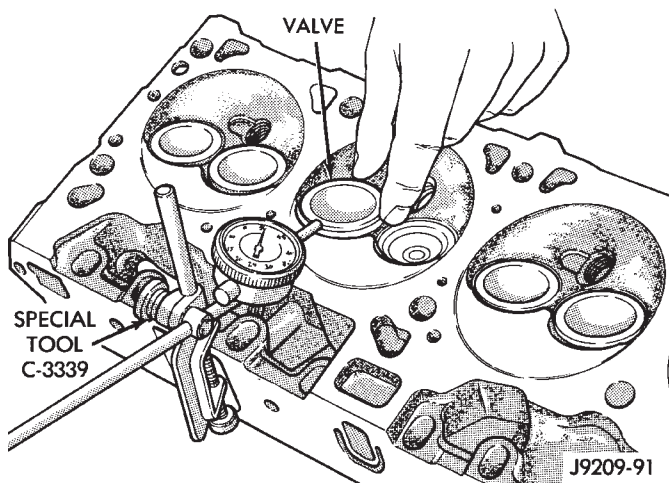

Fig. 50 Measuring Valve Guide Wear
(2) Attach Dial Indicator Tool C-3339 to cylinder head and set it at right angle of valve stem being measured (Fig. 50).